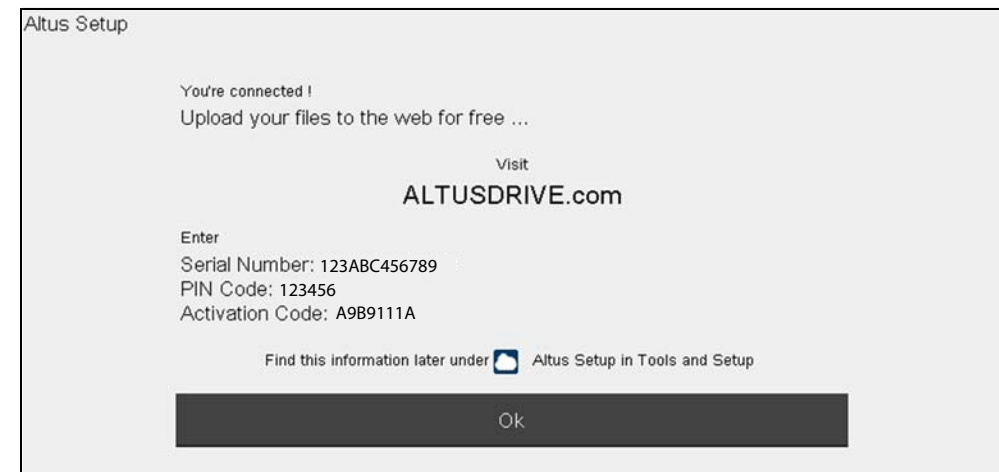

Figure 14-2
- Write down the Serial Number, PIN and Code that are displayed when the device connects to the Wi-Fi network (Figure 14-2), or leave the screen displayed. Registration information can also be found in the Tools menu, see Snap-on Cloud Setup Information Screen on page 106.
The PIN and Code numbers will change each time you view the Setup screen (Figure 14-2). This is normal, any displayed set of PIN and Code numbers may be used to register.